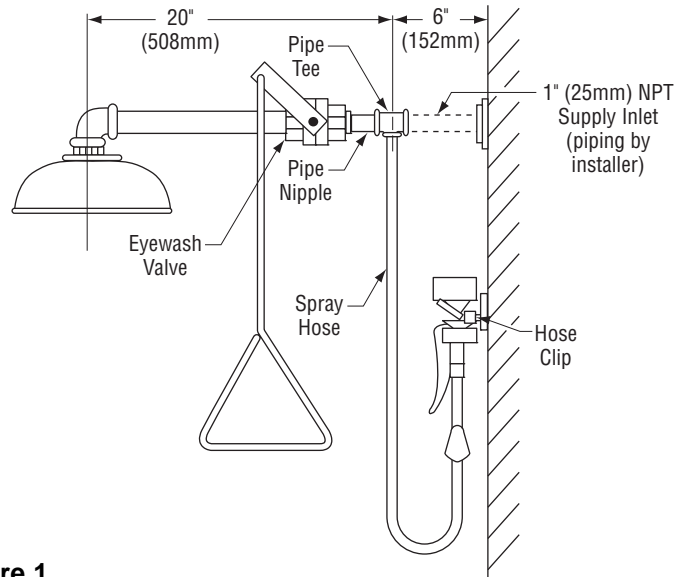

Figure 1
1. Connect the pipe nipple and the pipe tee to the drench shower (see Figure 1).